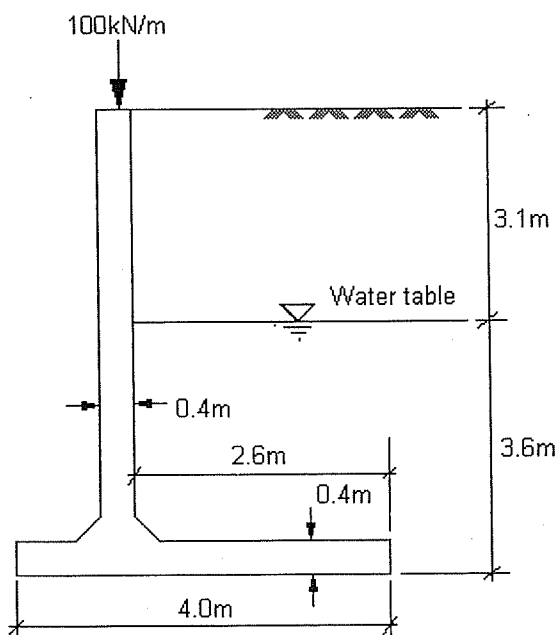

Fig. 3
3. Fig. 3 shows the details of a cantilever retaining wall. The shear strength parameters for the soil are $c' = 0$ and $\phi' = 32^\circ$. The saturated unit weight of soil is 19 kN/m^3 . The unit weight above the water table is 17 kN/m^3 . The unit weight of concrete is taken to be 23.6 kN/m^3 . If $\delta = 23^\circ$ on the base of the wall.